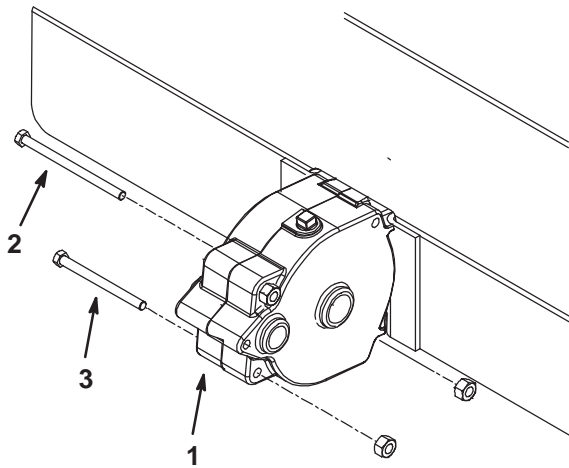

Figure 2
1. Tip the tiller onto its back and support it in an upright position. Remove the 3/8 x 5-1/2 inch and 3/8 x 4-1/2 inch bolts and the 3/8 inch nuts securing the gear case together (Fig. 2). Discard extra nuts used as spacers for shipping.